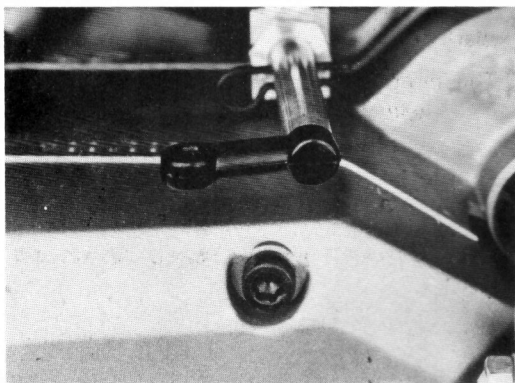

Fig. 12
2) Turn the fuel tap lever in the open or reserve position (**Fig. 12**).